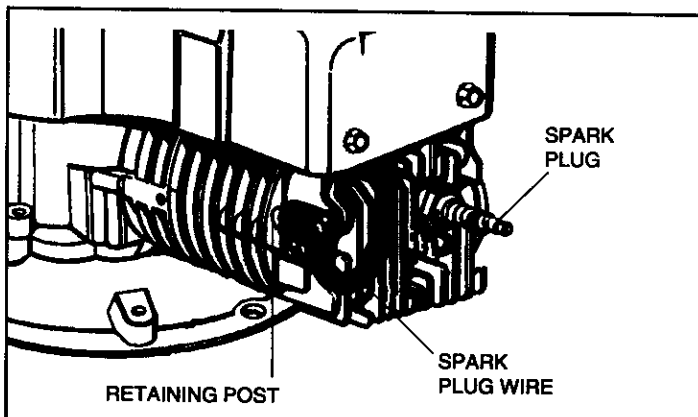

Figure 5
① See mower manufacturer's instructions.
② AFTER ENGINE IS STOPPED:
A. DISCONNECT SPARK PLUG WIRE FROM SPARK PLUG AND ATTACH IT TO RETAINING POST (see Figure 5).